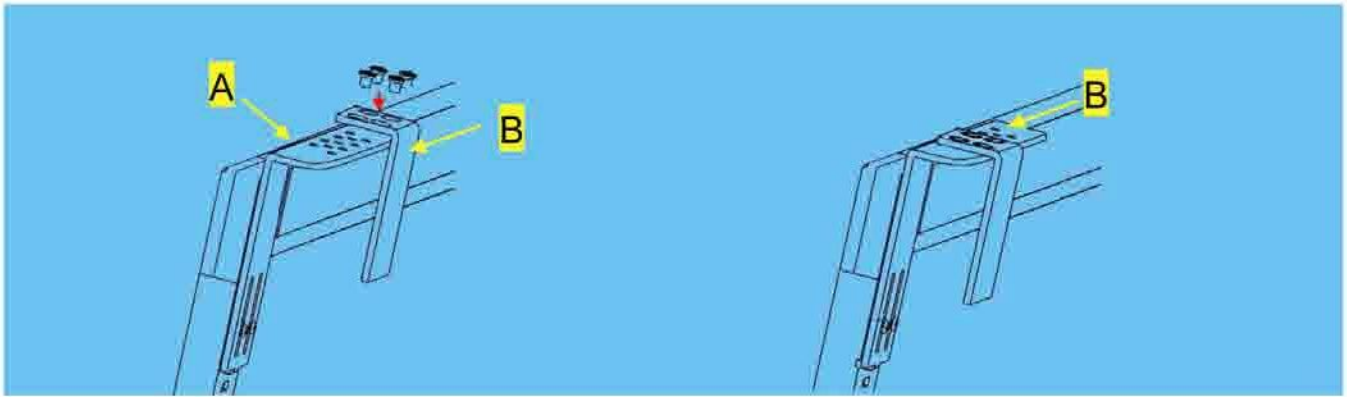

Fig. 3
3. Put the EIRMT on LED (or Plasma) display, then add on Hanger B (as Fig.3).